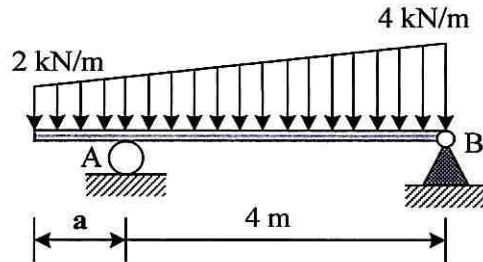

Fig. 4 (c)
4. (a) The 30 kg pipe is supported at A by a system of five cords as shown in Fig. 4 (a). Determine the force in each cord for equilibrium. [6]
- (b) A 90 N load is suspended from the hook shown in Fig. 4(b). The load is supported by two cables and a spring having stiffness $k = 500 \text{ N/m}$. Determine the force in the cables and the stretch of the spring for equilibrium. Cable AD lies in the x - y plane and cable AC lies in the x - z plane :
- (c) A simply supported beam loaded and supported is as shown in Fig. 4 (c). If the reactions at supports are equal in magnitude, determine the overhang **a**. [5]